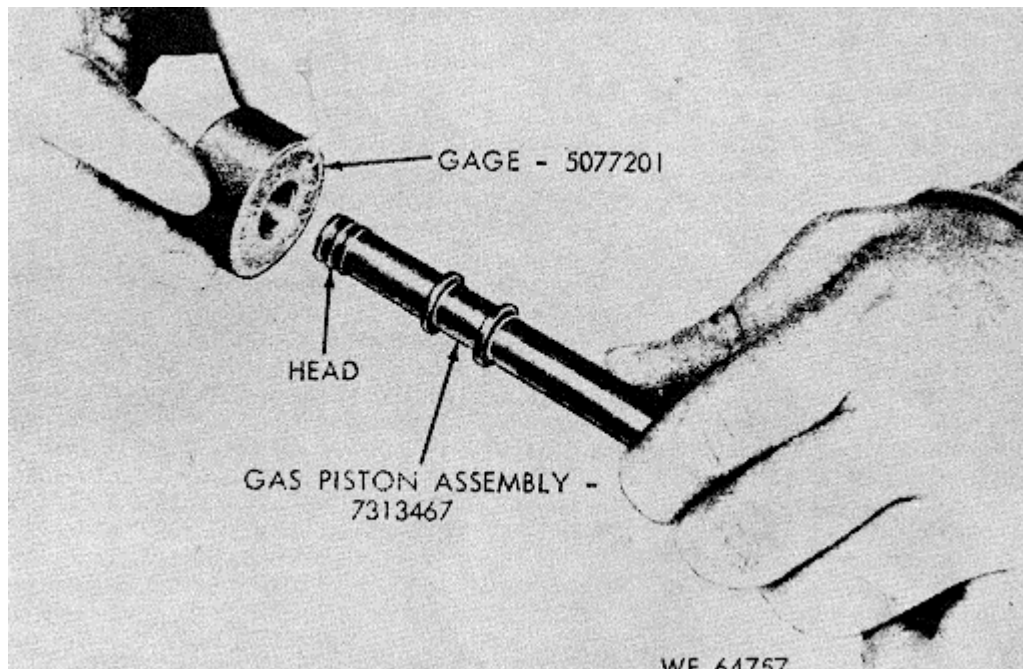

Figure 3-4. Gaging diameter of gas piston head
c. Check diameter of gas piston head (fig 3-4).